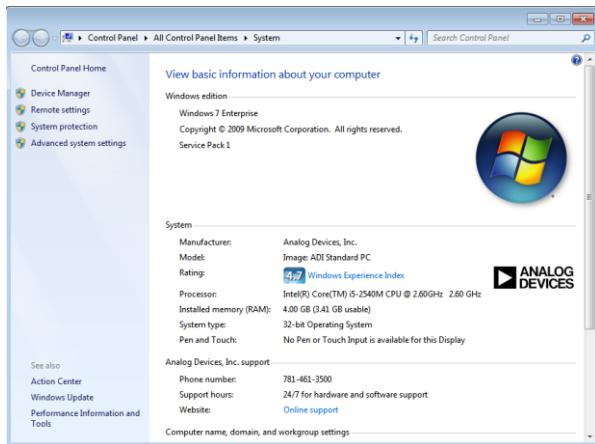

Figure 12. Windows 7 System Properties
2. In the upper left corner of the window that opens, select **Device Manager**, shown in Figure 12. Windows 7 may request that you allow access to this panel.